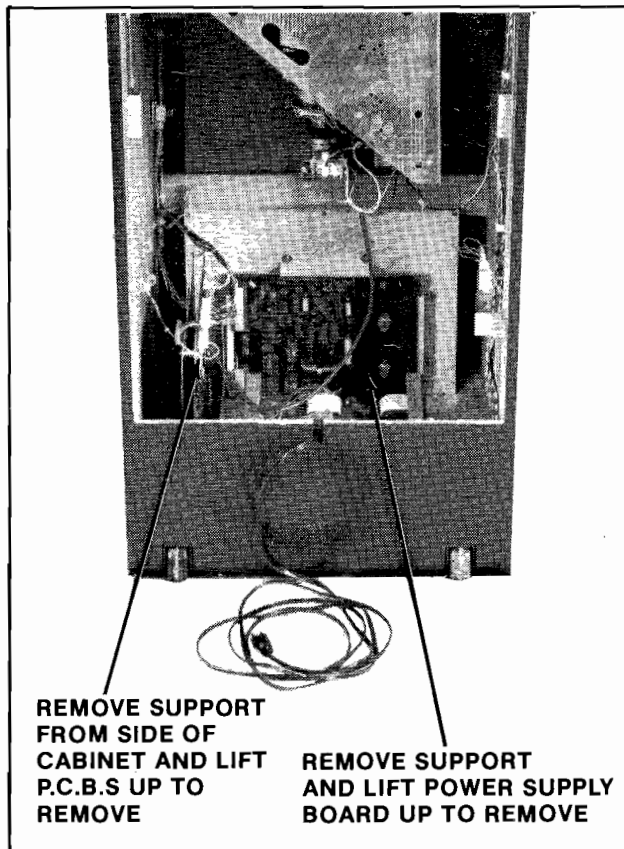

Figure 4-10 Replacing P.C.B.s — Upright
### 1. UPRIGHT MODEL: See Figure 4-10.
- Remove the P.C.B. clamps indicated in Figure 4-10 and slide the Main Game Logic Board out the back of the cabinet.